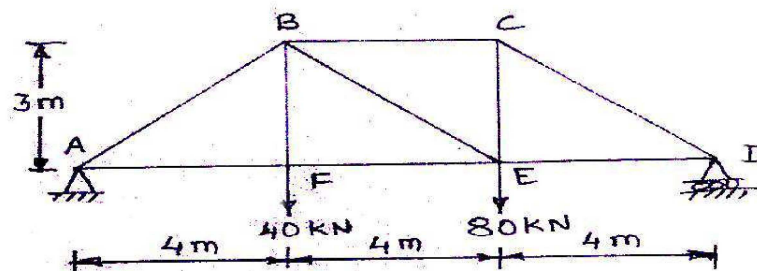

Fig. 5
5. Find the forces of the truss supported and loaded as shown in Fig. 5. The cross-section area of vertical and horizontal members is 4000 mm^2 and that of diagonals is 6000 mm^2 . [16]